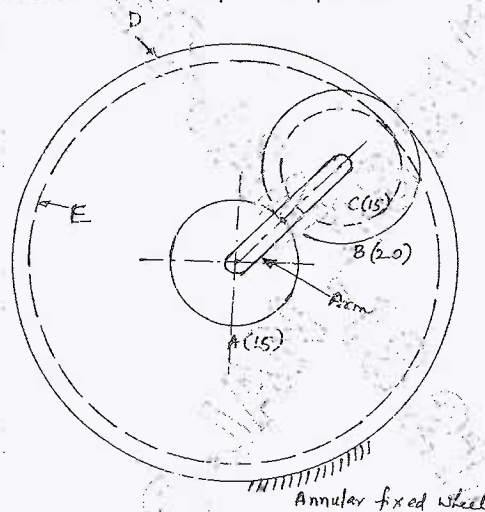

Fig.Q8(b)
- b. Fig.Q8(b) shows an epicyclic gear train. Pinion A has 15 teeth and is rigidly fixed to the motor shaft. The wheel B has 20 teeth and gears with A and also with the annular fixed wheel D. Pinion C has 15 teeth and is integral with B (B, C being a compound gear wheel), gear C meshes with annular wheel E, which is keyed to the machine shaft. The arm rotates about the same shaft on which A is fixed, and carries the compound wheel B, C. If the motor runs at 1000 rpm, find the speed of the machine shaft. Find the torque exerted on the machine shaft if the motor develops a torque of 100 Nm.